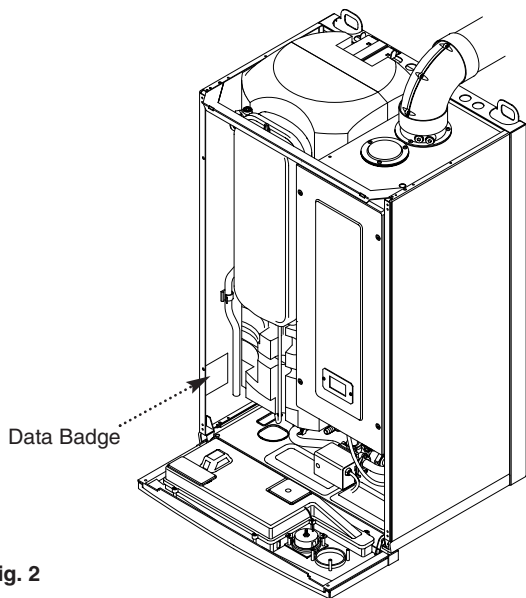

Fig. 2
7. The boiler data badge is positioned inside the left hand outercase panel (Fig. 2).